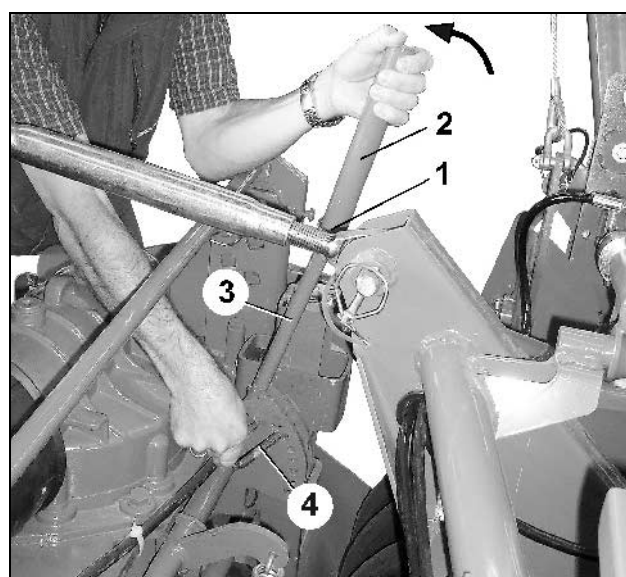

Fig. 94
- Slacken the clip pin (Fig. 94/1)
- Pull the lever extension (Fig. 94/2) off the lever (Fig. 94/3).
- _Turn the lever extension and affix on the lever (Fig. 94) using a clip pin.
- By inserting pins (Fig. 94/4) in quadrant plate set the desired height of the levelling bar.